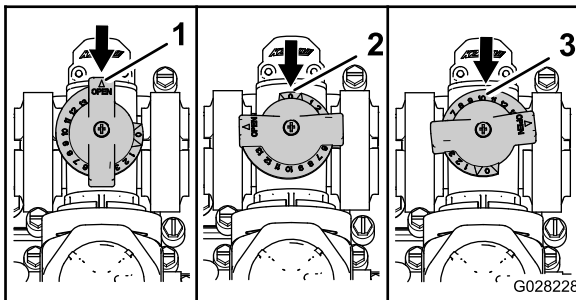

Figure 108
- The agitation bypass valve is in the full OPEN position as shown in Figure 108.
- The agitation bypass valve is in the CLOSE (0) position as shown in Figure 108.
- The agitation bypass valve is in an INTERMEDIATE (adjusted relative to the pressure gauge for the sprayer system) position as shown in Figure 108.